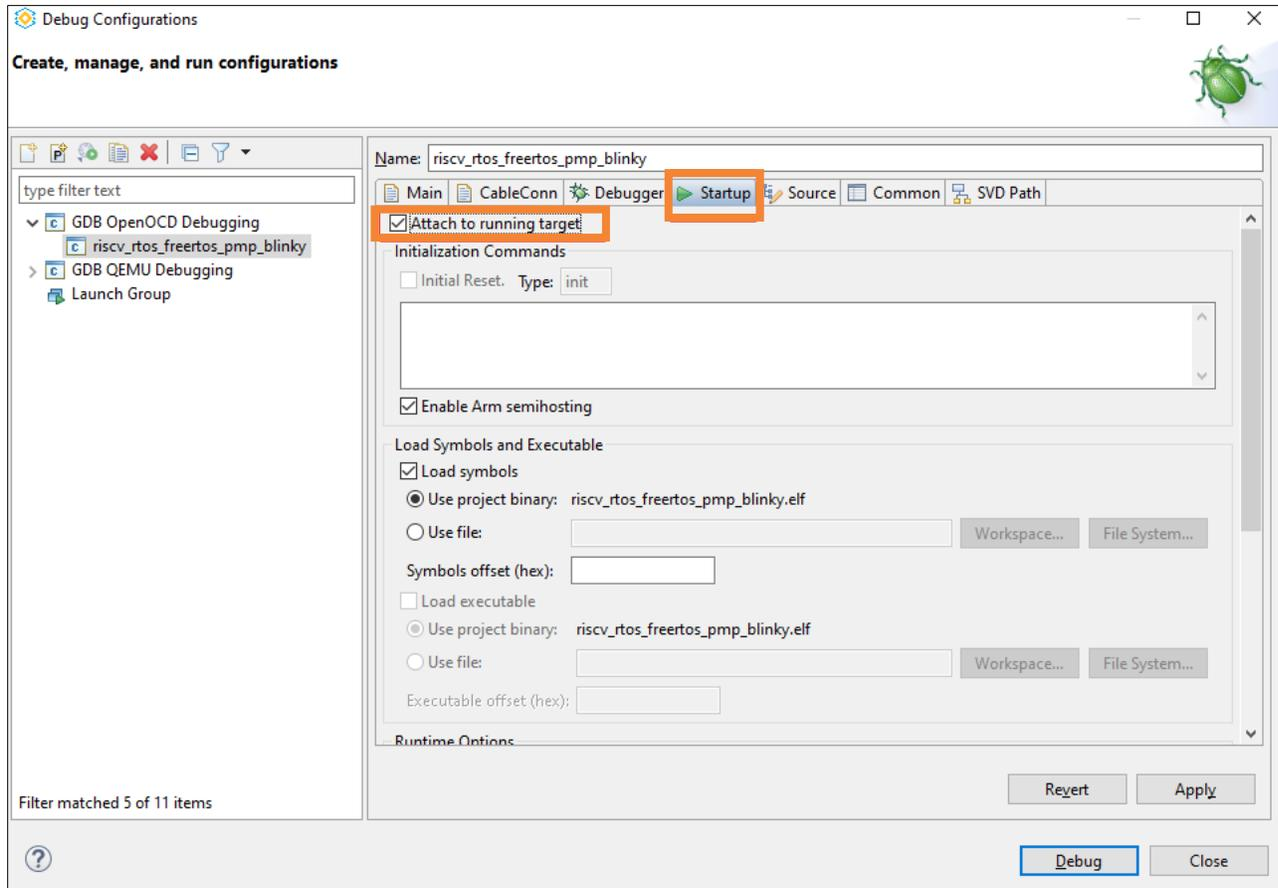

Figure E.2. Debug Configurations Dialog 8
2. Select **Run > Debug Configurations...**. Select the corresponding item (Figure E.2).
3. Select **Startup** tab. Check **Attach to running target** checkbox (Figure E.2). Click **Apply**. Click **Debug**.